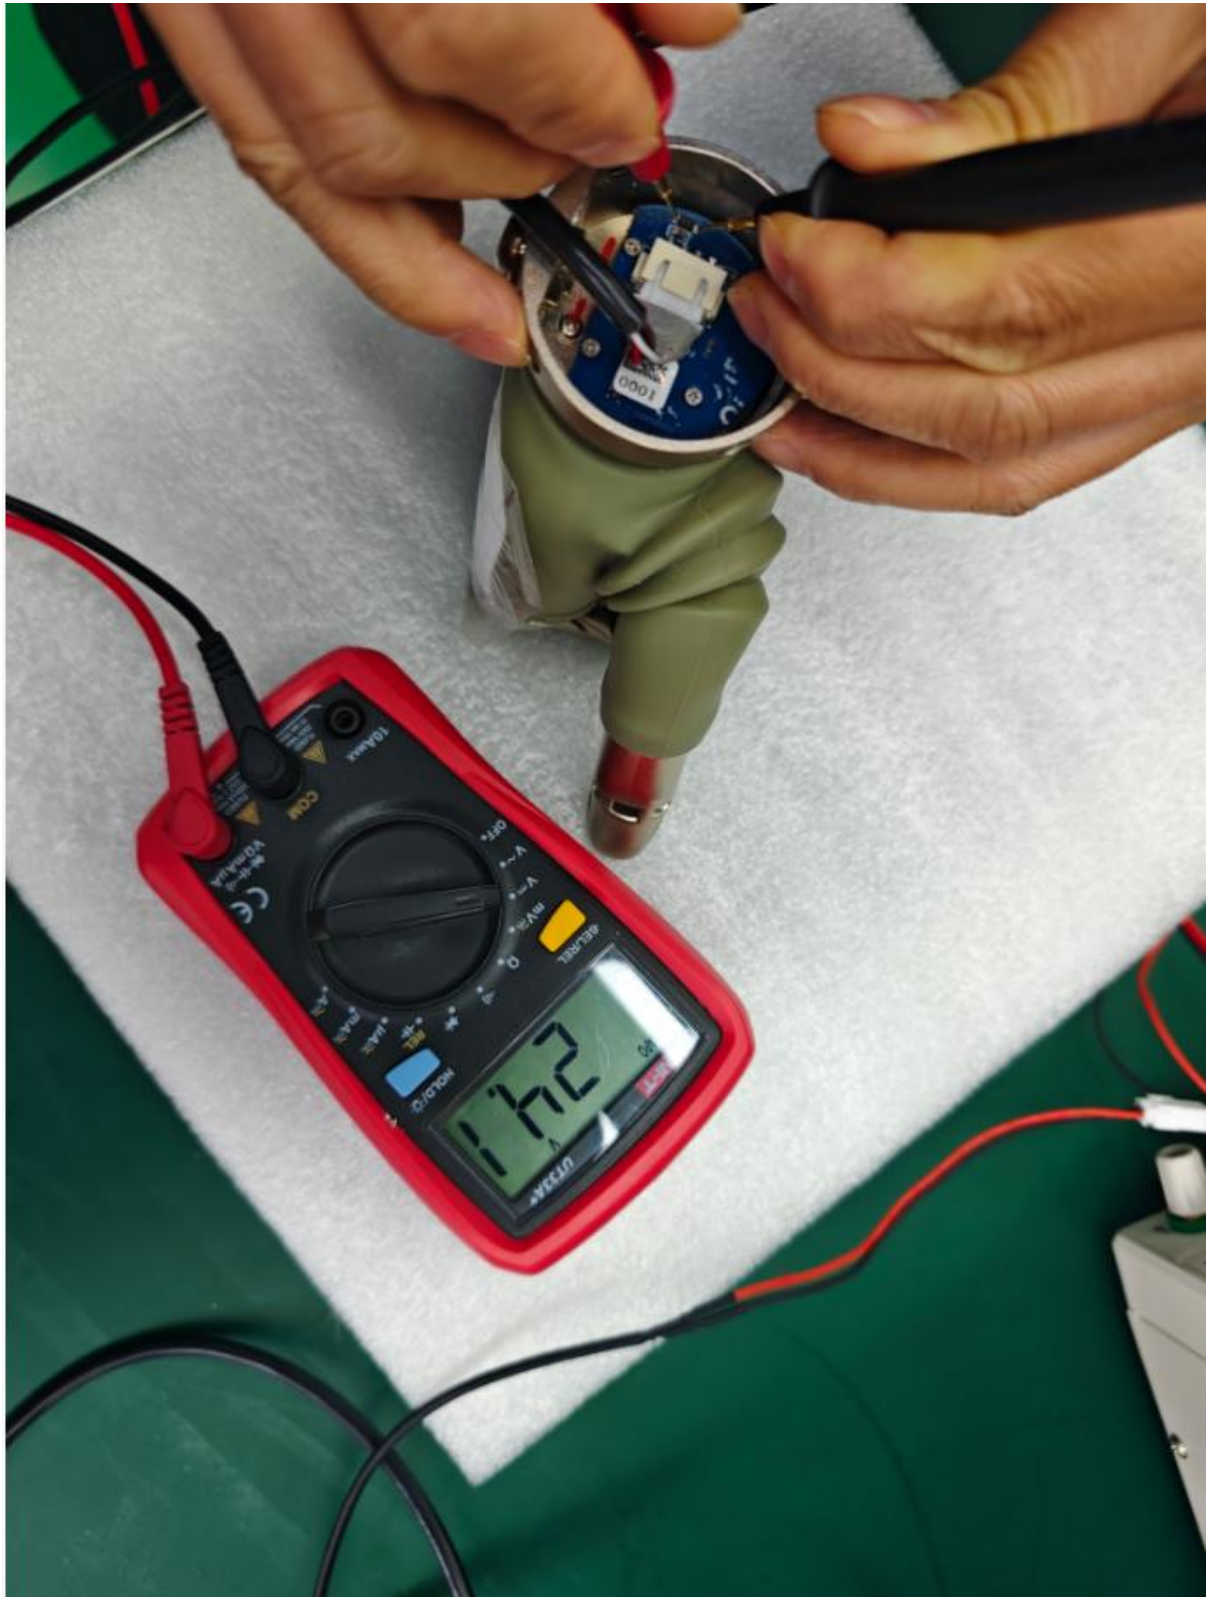

Figure 6
2. Test the power input on the power board. The reading should be approximately 24 V, as shown in Figure 6.